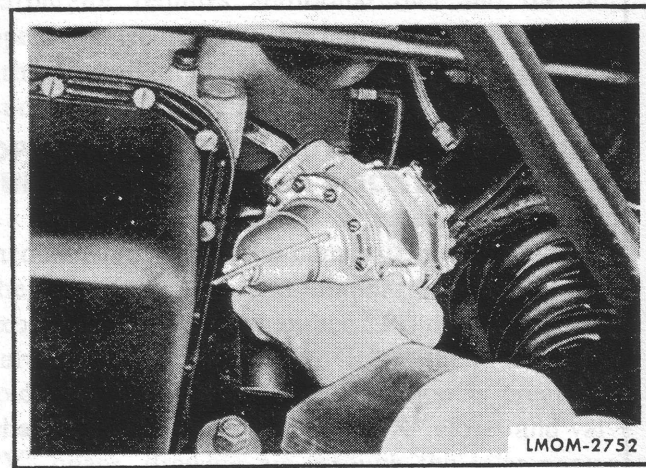

Fig. 51—Remove Fuel Pump from Engine.
2. Remove fuel pump from the engine. See figure 51.